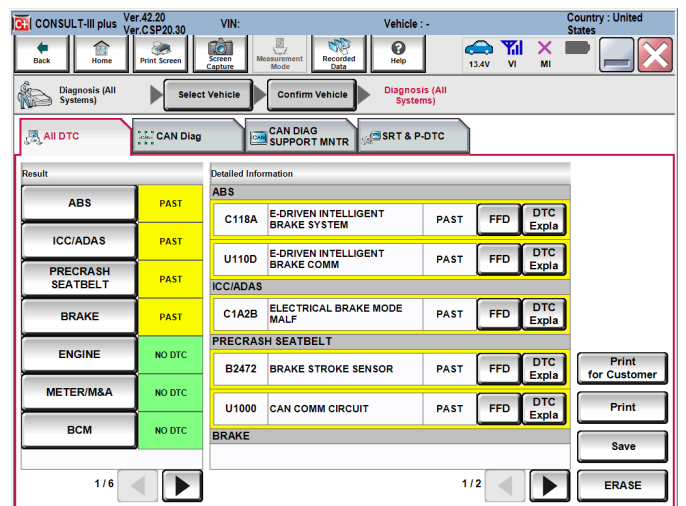

Figure 29
- If all DTCs have gone to past (Figure 29), skip to Step 46.
- While in “READY to drive” mode depress brake pedal for at least 5 seconds (all DTCs as shown in Figure 29 should now be PAST).